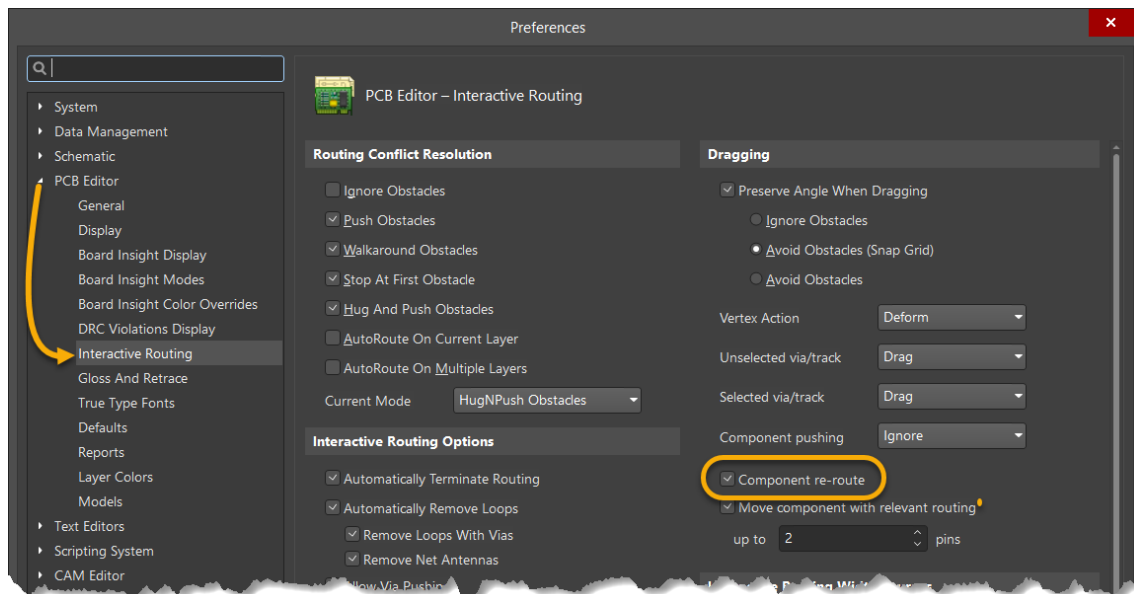

Figure 24. Preferences with active Component re-route
55. Activate the option **Component re-route**, as shown at Figure 24.